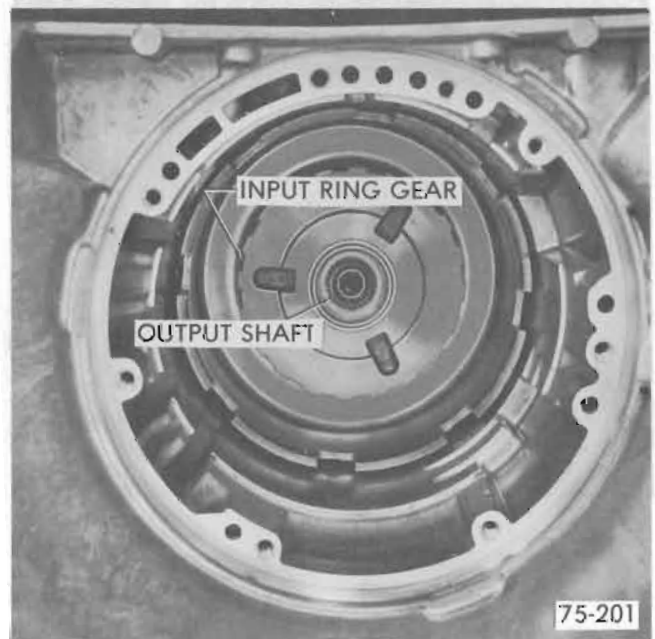

Figure 75-240
1. Install input ring gear. See Figure 75-240.